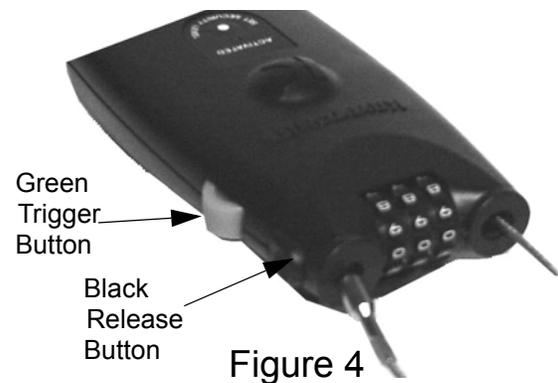

Figure 4
2. Press the Black Release button to unhook Cable Head (see Figure 4).